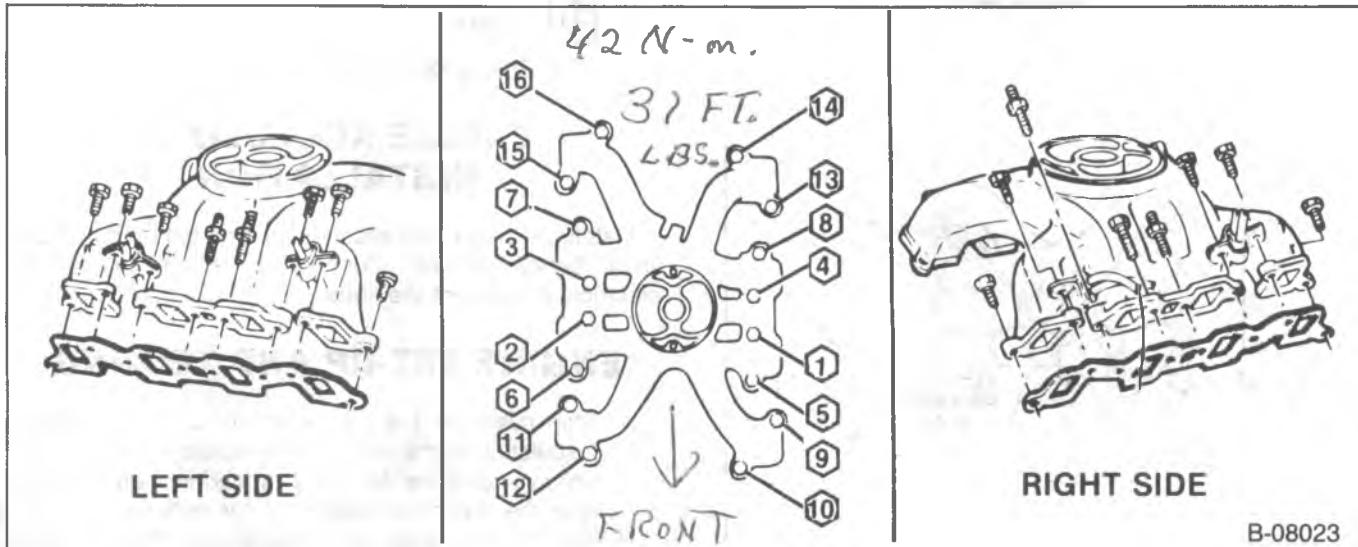

Figure 57—Intake Manifold Installation
Install or Connect (Figure 57)
- Intake manifold bolts to 42 N·m (31 ft. lbs.). Use the tightening sequence shown in figure 57.